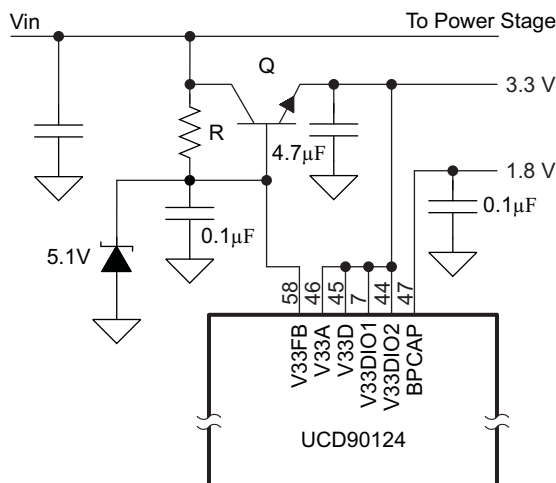

Figure 28. High-Voltage Supply With External Transistor
3.3-V regulator, or it can be generated from a higher voltage using a built-in series regulator and an external transistor. The external transistor must be an NPN device with a beta of at least 40 and a V_{CE} rating appropriate for the high supply voltage. Figure 28 shows a typical circuit using the external series pass transistor. The NPN emitter output becomes the 3.3-V supply for the chip. A 4.7- μ F bypass capacitor is required to stabilize the series regulator.